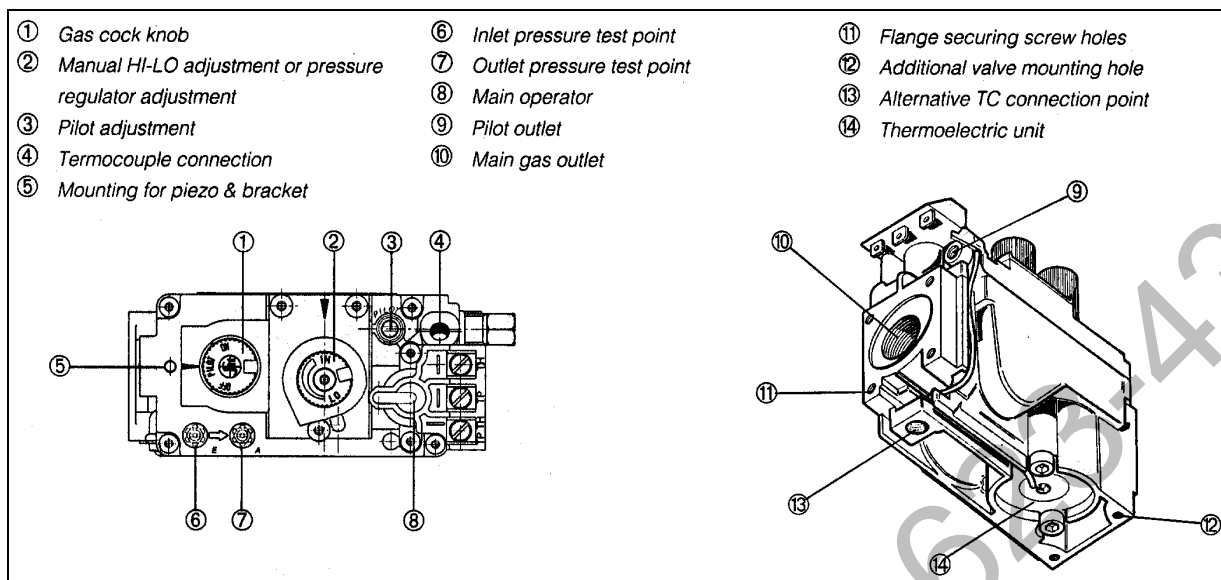

Figure 14
Once connected to the gas supply, the gas inlet pressure and manifold gas pressure must be tested. The gas inlet tap (6) and manifold pressure tap (7) is located on the control valve (see Figure 14). Connect a manometer to the test points on the gas control valve.